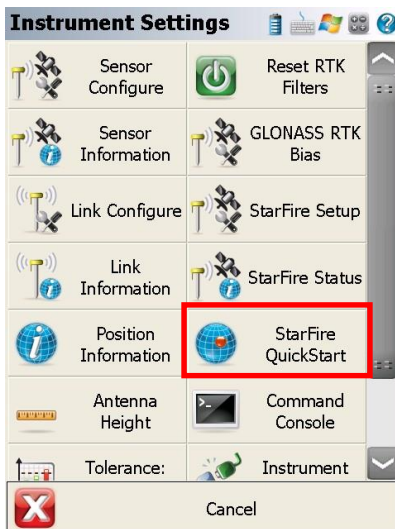

Figure 42: Instrument Settings/StarFire QuickStart
7. On the **Instrument Settings** dialog box (refer to Figure 42), click **StarFire QuickStart**.